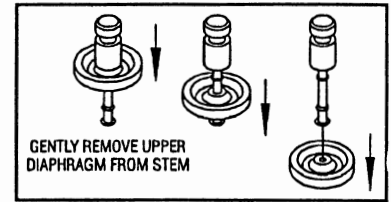

Figure 36. Upper Diaphragm removal from Pilot Stem
- g. As shown in Figure 36, gently pull Item 34 Upper Diaphragm to the Opposite End of Item 32 pilot Stem and remove in the same manner as done for the Lower Diaphragm in Figure 34.
- g. As shown in Figure 36, install Item 31 Cap over Large End of Pilot Stem then place Pilot Assembly on top of Item 24 sleeve with Lower Diaphragm positioned in Sleeve Recess and Pilot Ports oriented as shown in Figure 34. Align Bolt Holes with those of Item 37 LLS Body. Install Item 7 Cap Screws and tighten approx. 35 lbs. in.